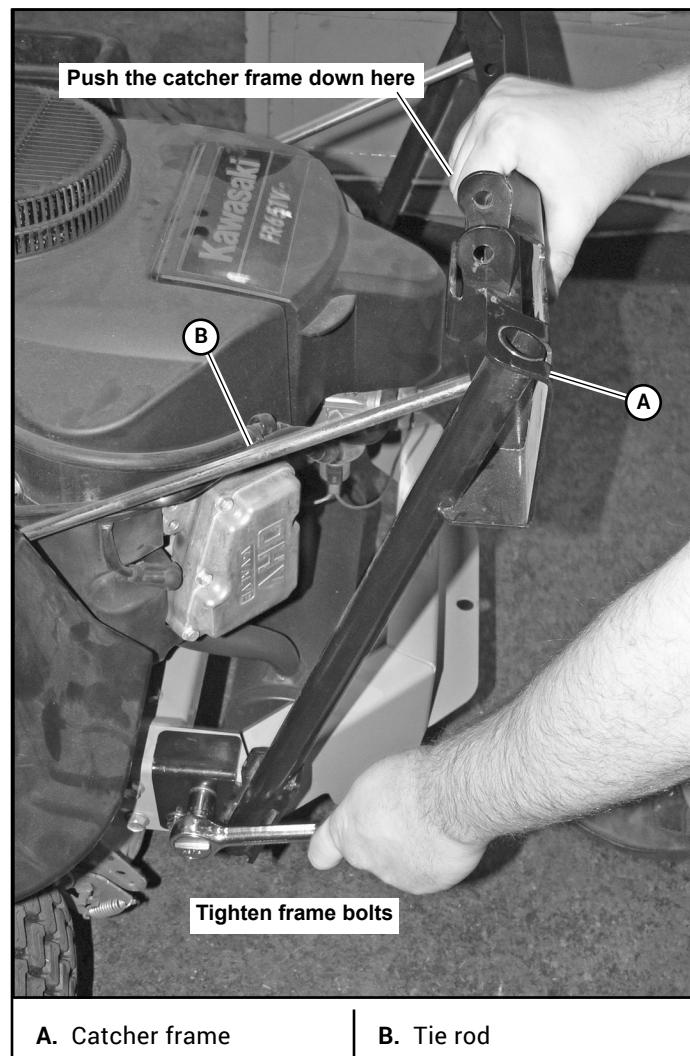

Figure 3-19
Insert the tie rod through the proper hole in the catcher frame and secure with a hair pin. Figure 3-19
26. Push down on the catcher frame and tighten the lower frame bolts. Pushing down on the catcher frame while tightening these bolts will provide the correct tension on the tie rods. Figure 3-19